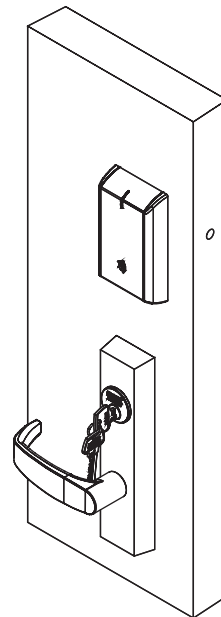

Fig. 32
1. Insert key into cylinder and rotate. (Figure 32)